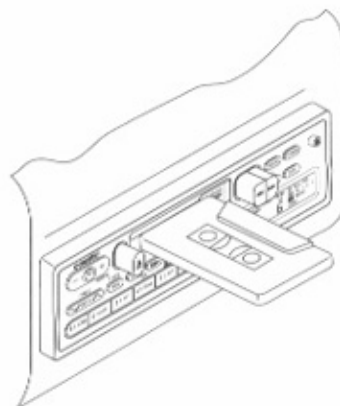

Figure 5. Loading Cassette Tape.
- A. Insert cassette tape into cassette tape loading slot with the open side facing right (see Figure 5).